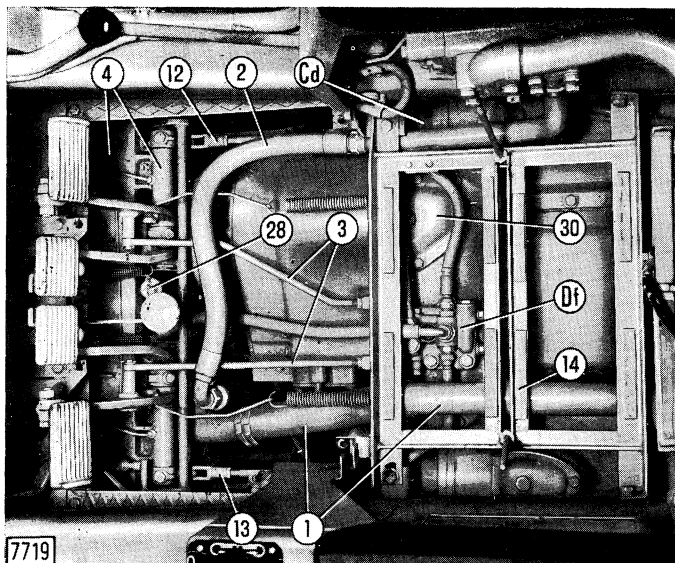

Fig. 85 - Top View of Converter/Gearbox Unit
3. To remove cross member (4, Fig. 85) complete with pedals and gearbox clutch oil pressure check valve:—